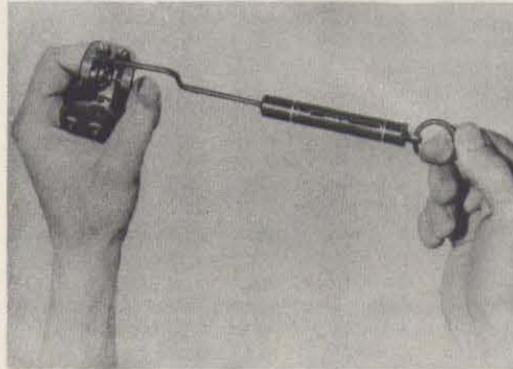

Figure 8—Checking Breaker Main Spring Tension
(2) Clean the breaker assembly thoroughly before reassembling.
(3) Check breaker lever tension with gage No. 11-1864. Tension should be from 16 to 32 ounces. If tension is low, it usually can be increased by installing a new long reinforcing spring. (See figure 8.)